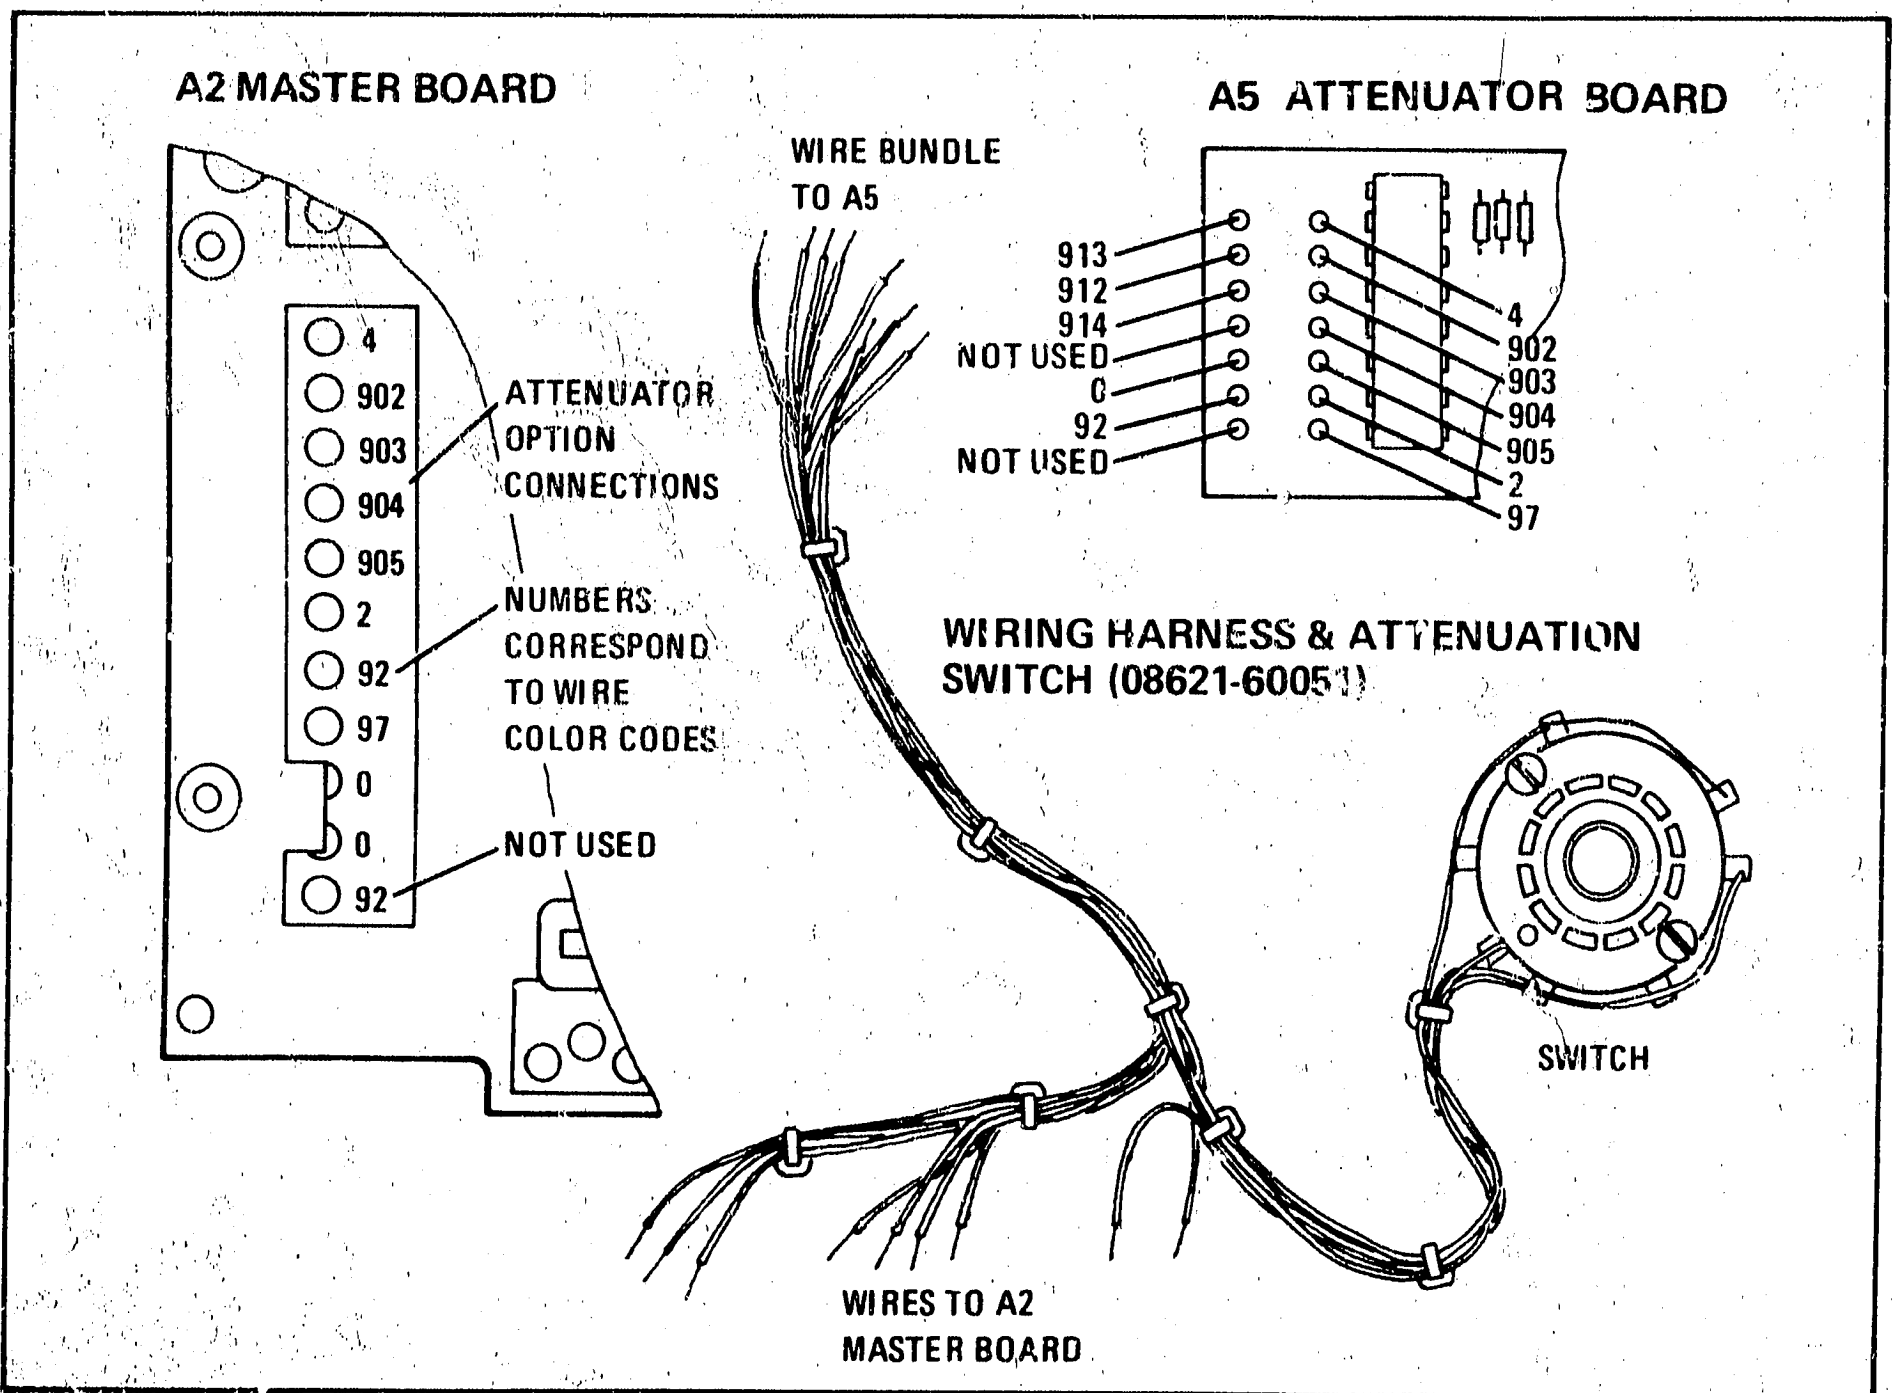

Figure B-11. Wiring Harness and Attenuation Switch Connections, Option 010
- c. Place switch in front panel with cable down towards chassis bottom (Figure B-11).
14. Solder ten wires to A2 Master Board. (Refer to Figure B-11 for installation and Figure 8-1 Schematic Diagram Notes (1 of 2) for information on reading wire color codes.)
17. Solder twelve wires to A5 Attenuator Board. (Refer to Figure B-11 for installation.)
15. Solder ten wires to A2 Master Board. (Refer to Figure B-11 for installation and Figure 8-1 Schematic Diagram Notes (1 of 2) for information on reading wire color codes.)
18. Solder twelve wires to A5 Attenuator Board. (Refer to Figure B-11 for installation.)